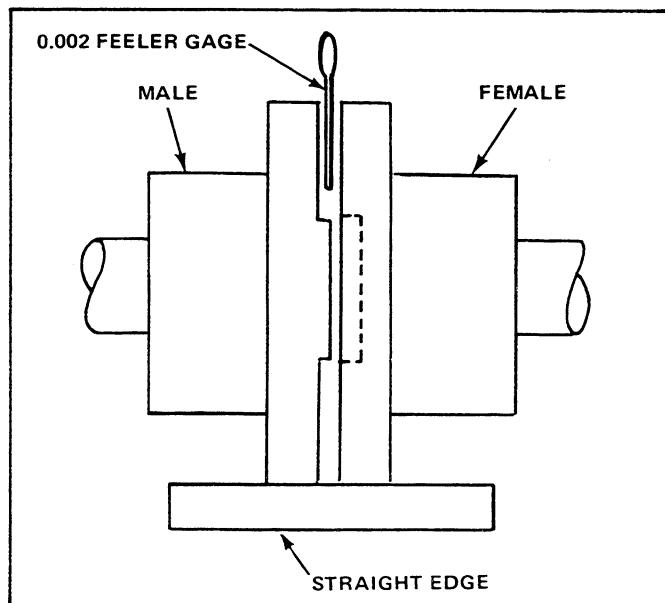

Figure 9-14 Checking Alignment (Parallelism) of Coupling and Propeller Flanges.
2. It will also be necessary to move the engine and transmission from one side or the other on the bed to obtain horizontal alignment. This can be done with a jack placed horizontally between the engine and the foundation. At the same time, a straight edge is laid across the edges of the flanges at the top and side to check the parallel alignment of the coupling edges. See Figure 9-14.